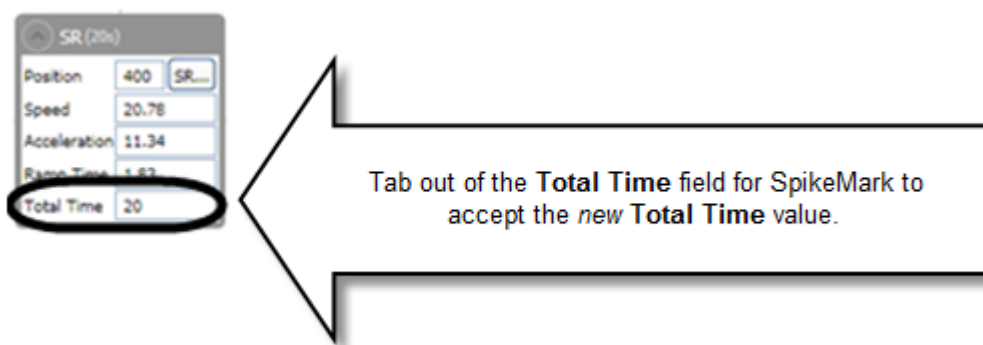

Figure 140
2. Enter in a new **Total Time** value and press the **Tab** key (Figure 140).